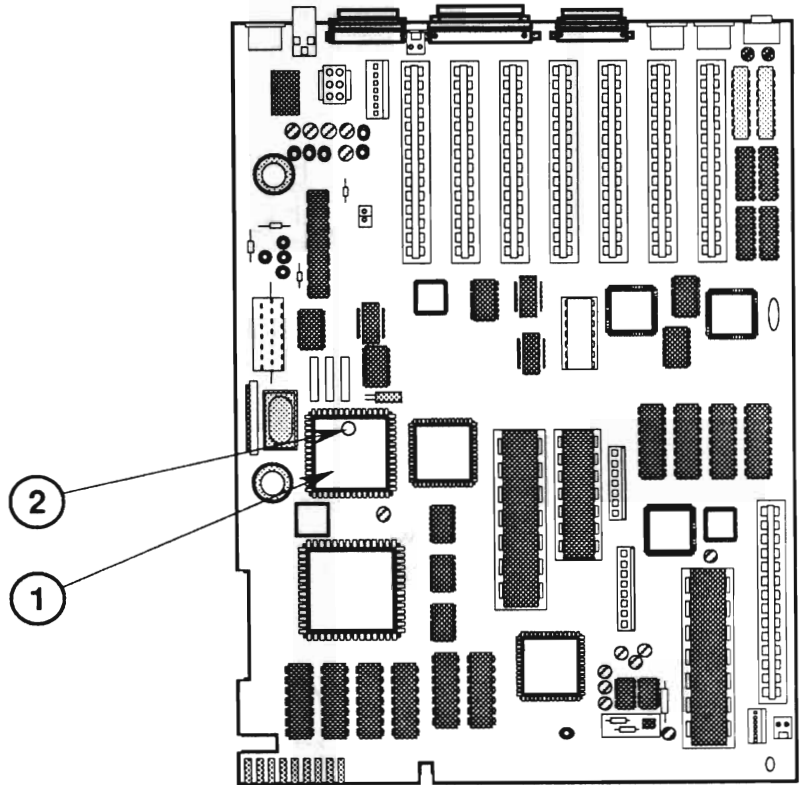

FIGURE 6
4. Locate the VGC at location H5 (Figure 6, #1) and verify that it needs to be replaced by comparing the vendor and number on the IC with the list above.
6. Remove the old VGC installed at location H5 (Figure 6, #1) using the VGC extraction tool.
7. Using the VGC extraction tool, install the new VGC in the same location, H5 (Figure 6, #1). The dot at pin 1 on the IC should face the rear of the machine (Figure 6, #2).